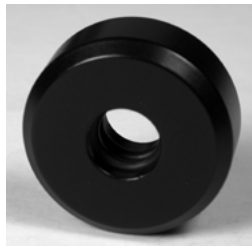

Figure 8
7. Locate the Tone Arm Counterweight. Refer to figure 8.